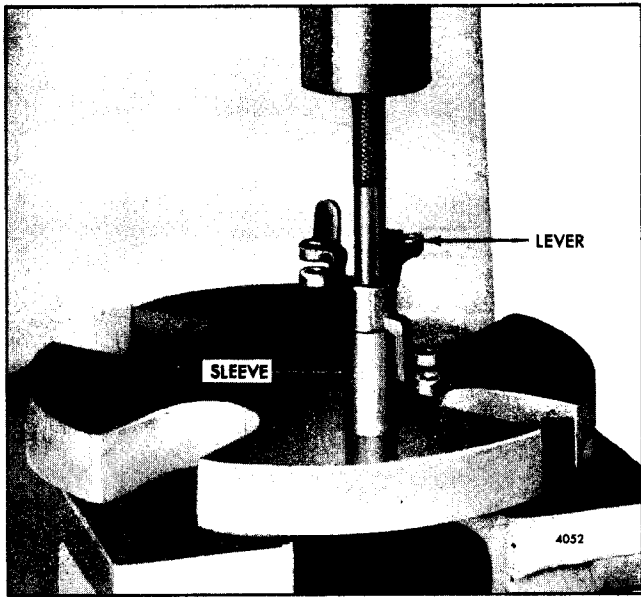

Fig. 8 - Removing or Installing Control Link Lever Bearings using Tool J 8985
3. If the bearings require replacement, support the control link lever on a sleeve placed on the bed of an arbor press. Then press the bearings out of the lever with tool J 8985 (Fig. 8).